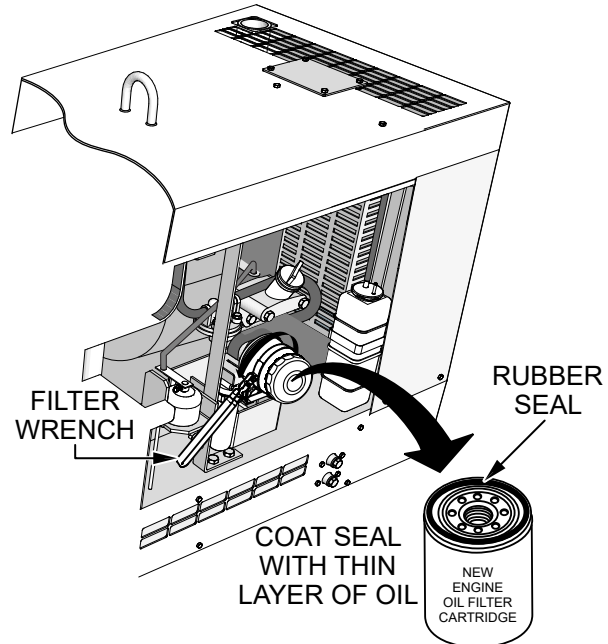

Figure 51. Oil Filter Replacement
2. Using an **oil filter wrench** (Figure 51), remove the **engine oil filter**.
3. Coat the **rubber seal (gasket)** surface of the new oil filter with clean 15W-40 engine oil (Figure 51).